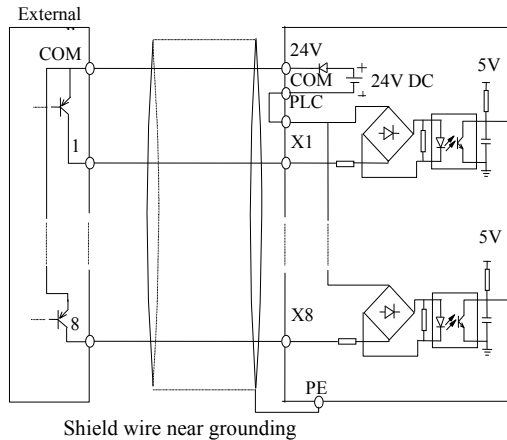

Fig 2-22 Method 2 of connections (b)
- 2) Inverter's internal +24 V power supply is used and the external controller uses NPN transistors whose common emitters are connected, as shown in Figure 2-22 (Attention: be sure to disconnect the cable JP1 between PLC and 24 V for models of S2R4GB~3004GB; and disconnect the wiring cable between PLC and 24 V for models of 35R5GB/37R5PB~3500G, short circuit terminal PLC and COM).